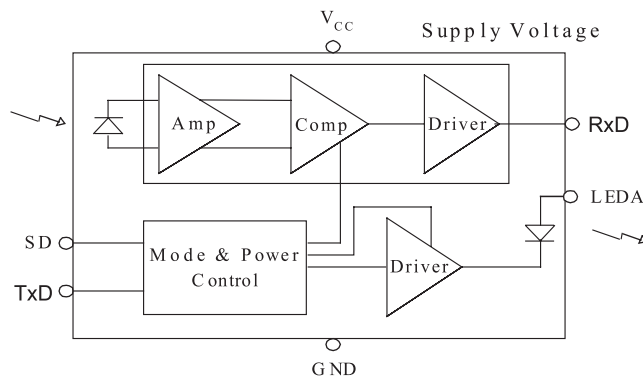

Figure 2. ZHX1201 Block Diagram
- Figure 2. ZHX1201 Block Diagram 1
The transceiver combines an IRED emitter, a PIN photodiode, and a unique driver/control ASIC in a single package, as shown in Figure 2.